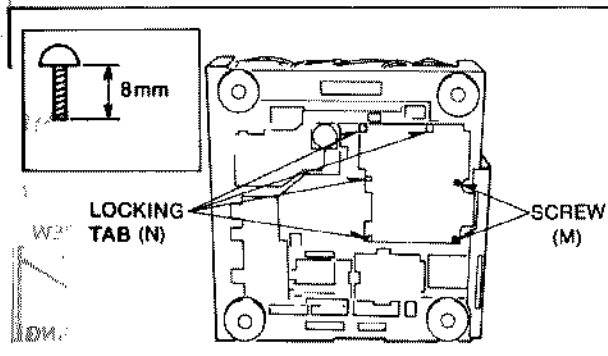

Fig. D11
- Remove the Servo C.B.A. (Refer to Fig. D11)